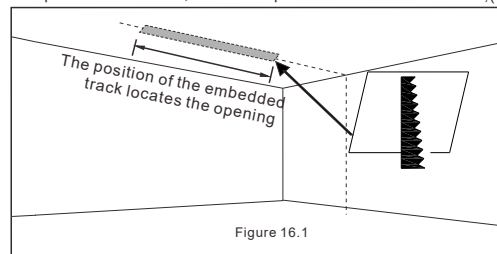

Figure 16.1
1. Before installation of embedded magnetic suction track, please refer to the hole size table 16.1/ and the screw installation position in Figure 16.1, and then locate the hole installation in the installation area; Please refer to the external power supply installation instructions (omitted in Figure 10.1) for the installation of the power supply conducting connector.
2. In the track installation area, track hole size, mark the installation position and position with tools, and then open the hole for installation;(See Figure 16.1)